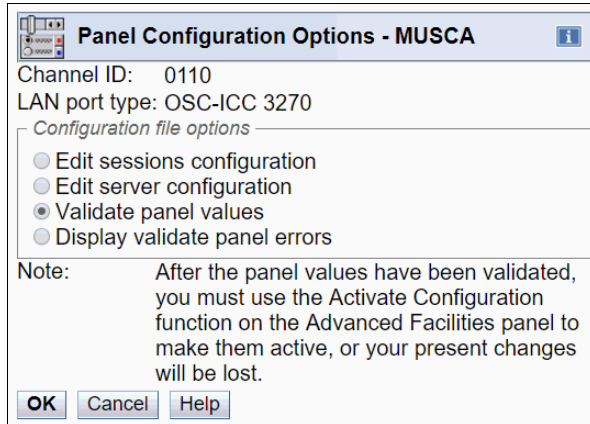
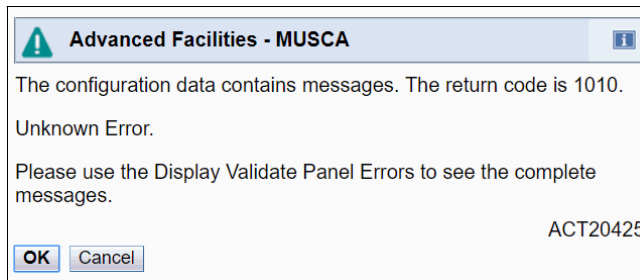

Figure 7-9 Display validate panel
Figure 7-10 Panel Configuration Options error found
12. The Panel Configuration Options window opens again (see Figure 7-9). Now, you can validate the values. Select **Validate panel values** and click **OK**.
If an error is encountered, a window similar to the window that is shown in Figure 7-10 opens. You can confirm the error by selecting **Display validate panel errors** on Panel Configuration Options (see Figure 7-9). Correct the error, and select **again the Validate panel values** to check again.